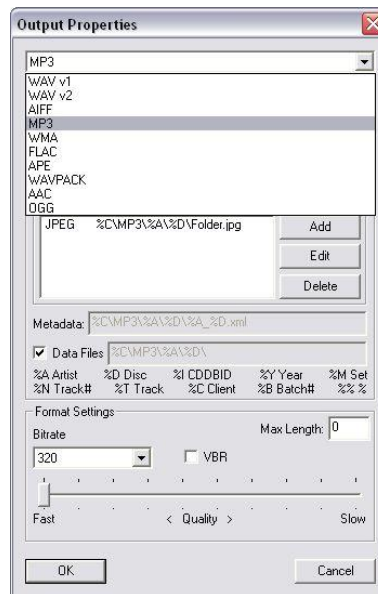

Figure 4.16– New Output Dialog
- To add a new codec, click the **[Add]** button in the Batch Properties dialog box. The New Output dialog will appear as in figure 4.16